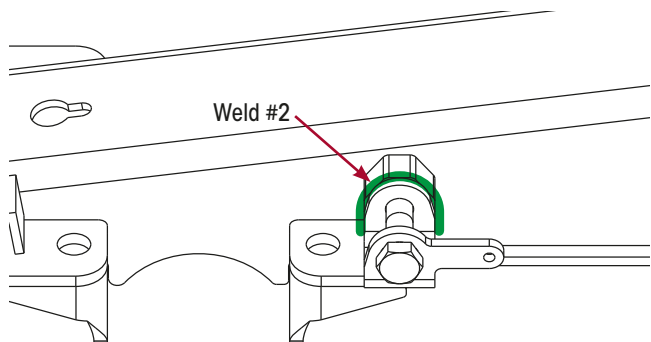
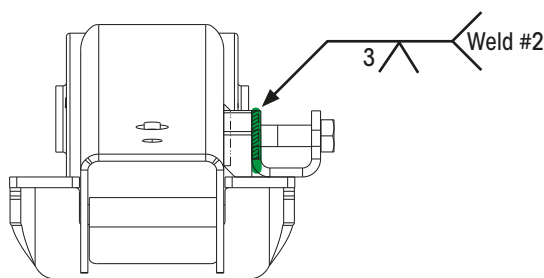

Figure 6: Weld #2 – Side View
Figure 7: Weld #2 – Rear View
5. **WELD #2.** Weld clevis to the reinforcement block in one continuous bead. Refer Figure 6 and Figure 7.